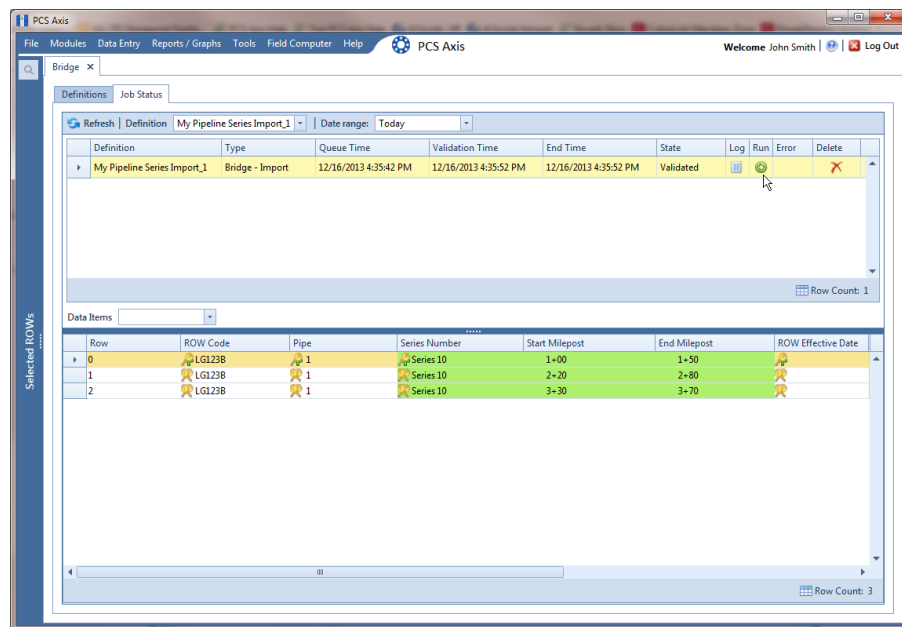

Figure 10-69. Job Status
- a If the *Job Status* window is open, click  **Run** for a selected import file listed in the *Job Status* window (Figure 10-69). Then click  **Refresh** to update status information.